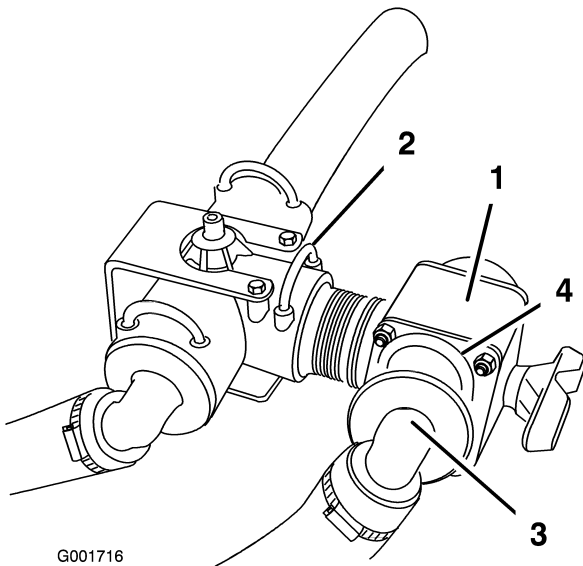

Figure 7
3. Install the new control valve into the open port on the supply tee and secure it with a new retaining fork (Figure 7).
4. Connect the boom supply hose to the open port on the control valve and secure it with the retainer removed previously (Figure 7).